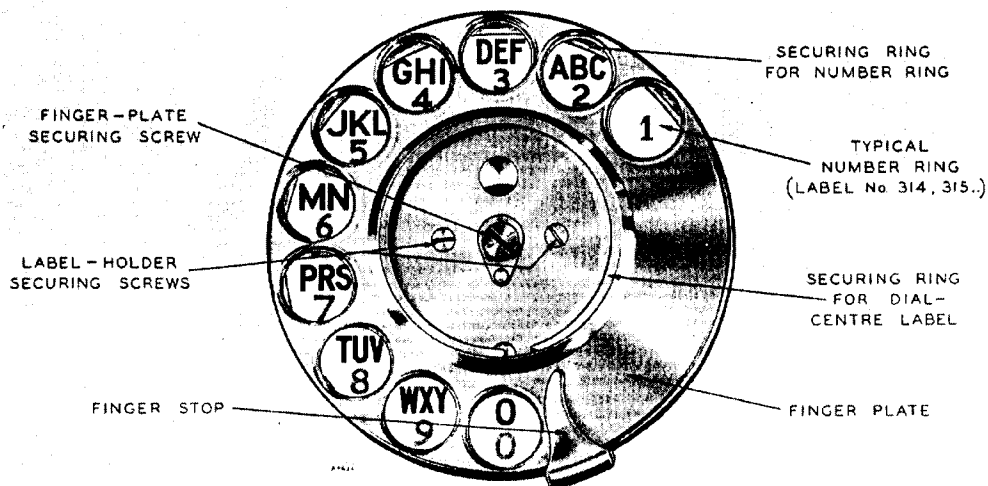

FIG. 1.—FRONT VIEW
**4. Names of parts.**—The names of parts are indicated on the views of the typical trigger dial, Figs. 1, 2 and 3. The additional features of the coin-box dial (Dial, Auto., No. 13...) are shown in Fig. 20 and those of the tester dial (Dial, Auto., No. 16...) in Fig. 30.